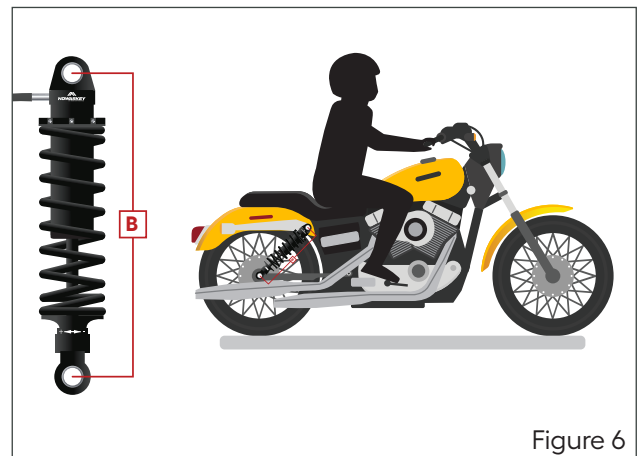

Figure 6
2. Mount the motorcycle on level ground and measure the distance between the center of each mounting bolt (Figure 6). **This is measurement "B".**